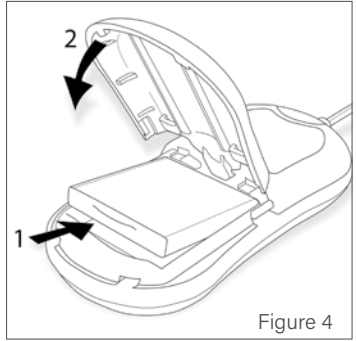

Figure 4
**Step 1:** Following the arrows, insert the charged battery pack (1, 2) into the SpinalPak® (Figure 4). The LED light on top of the device will blink, indicating power. Each symbol will be indicated on the display and the alarm will flash and beep if the electrodes are not properly applied. To silence the audio alarm press the button below the display.